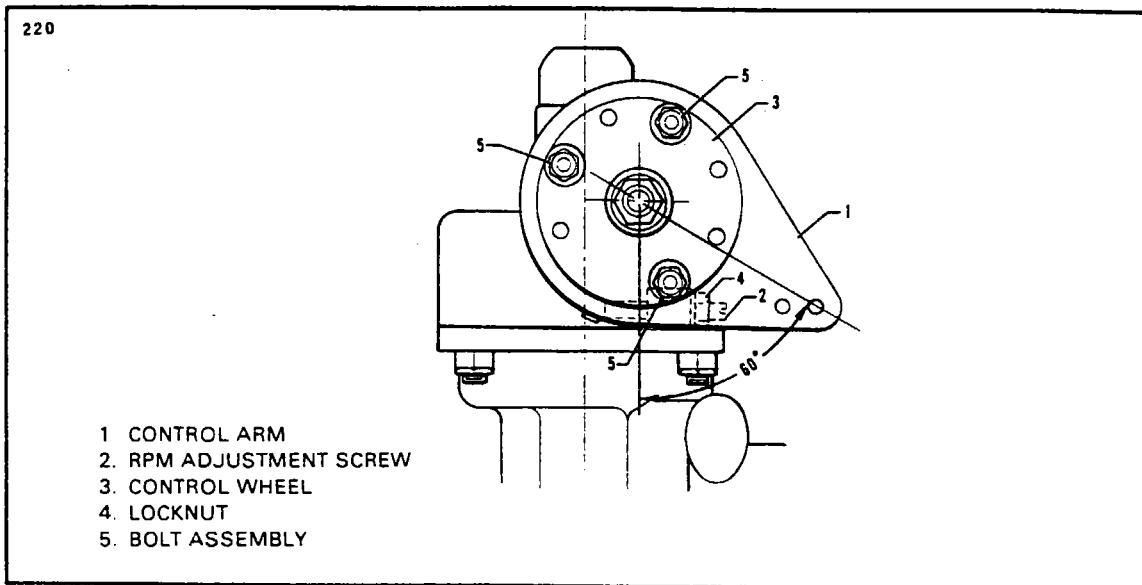

Figure 8A-1. Propeller Governor
8A-8. RIGGING AND ADJUSTMENT OF PROPELLER GOVERNOR. (Refer to Figure 8A-1.)
5. Ascertain that the governor control arm (1) is adjusted to the proper angle on the control wheel (3) as shown in Figure 8A-1.
8A-10. REMOVAL OF ENGINE. (Refer to Figure 8A-2.) The removal of either engine is basically the same procedure, though the routing of some wires, cables, lines, etc., do vary between engines. Each line should be identified to facilitate reinstallation and covered, where disconnected, to prevent contamination.